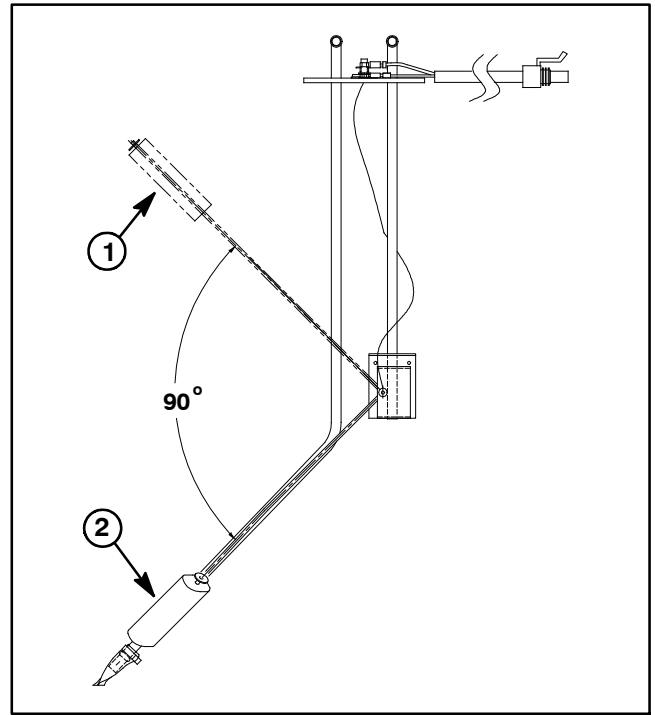

Figure 80
8. Use a multimeter to check resistance of the fuel sender across the two (2) sender terminals (Fig. 80).